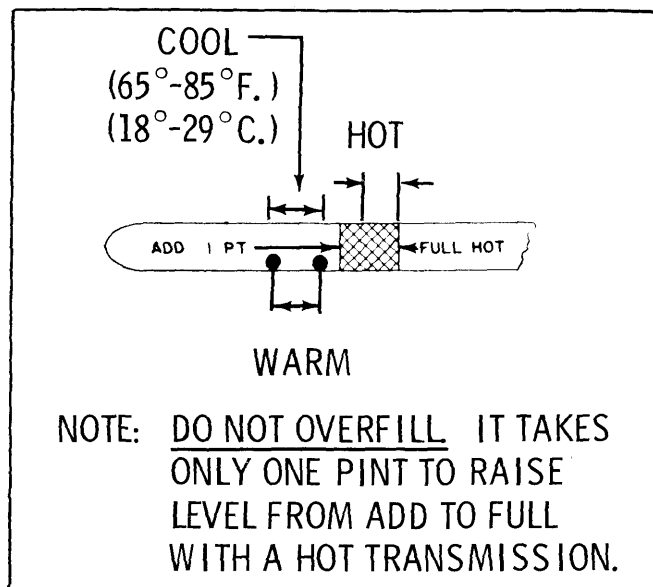

Fig. 7-5—Transmission Oil Level Check
**CHECKING AND ADDING FLUID (Transmission at Room Temperature 65[ to 85[ F.) (Fig. 7-5)**
**CHECKING AND ADDING FLUID (Transmission at Operating Temperature) (Fig. 7-5)**
2. With manual control lever in park (P) position, start engine and place on cold idle cam. DO NOT RACE ENGINE. Move manual control level through each range.
3. Immediately check fluid level with selector lever in park (P), engine running and the car on a LEVEL surface, then add additional fluid so the level will be between the two dimples below the "ADD" mark. (Fig. 7-5)